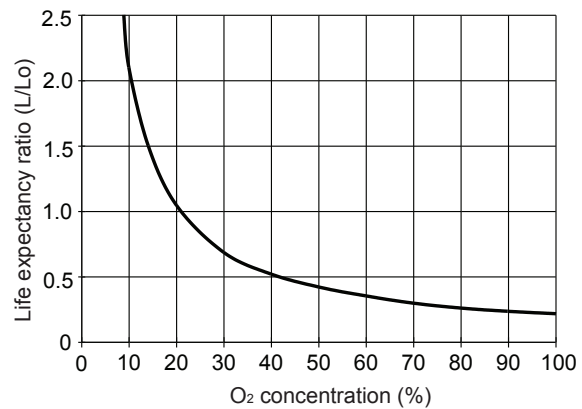

Fig. 9a - Relationship of life expectancy vs. O2 concentration (Lo = life at 20.7% O2)
Figure 9a shows the relationship between life expectancy and O2 concentration for KE sensors. The Y-axis indicates the ratio of life expectancy in a given O2 concentration (L) to life expectancy in natural air (Lo). The greater the O2 concentration, the shorter the life expectancy. The influence of atmospheric pressure on life expectancy is estimated based on the O2 concentration in a given atmospheric pressure.